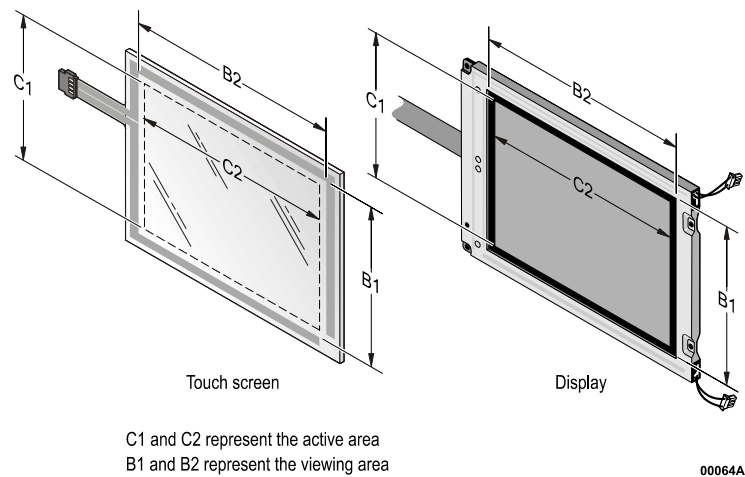

Figure 2: Active area and viewing area
- **Active area.** The active area of the touch screen should match the active area of the display (Figure 2).
- **Viewing area.** The viewing area of the touch screen is typically designed to match the viewing area of the display (Figure 2).